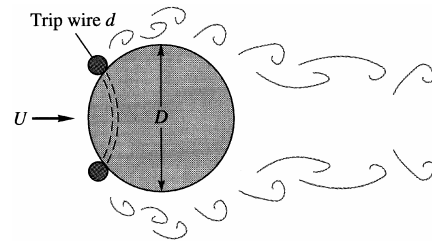

Fig. P6.5
6.5 In flow past a body or wall, early transition to turbulence can be induced by placing a trip wire on the wall across the flow, as in Fig. P6.5. If the trip wire in Fig. P6.5 is placed where the local velocity is U , it will trigger turbulence if $Ud/\nu = 850$, where d is the wire diameter [Ref. 3 of Ch. 6]. If the sphere diameter is 20 cm and transition is observed at $Re_D = 90,000$, what is the diameter of the trip wire in mm?